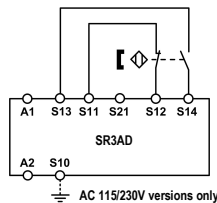
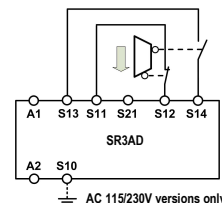
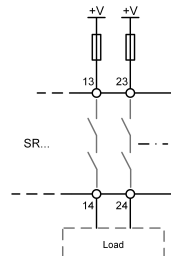

Fig. 4:
Fig. 5:
Fig. 11:
Depending on the application the device must be wired as shown in Fig. 4 to Fig. 11.
- The start circuit must be wired corresponding to the application according to Fig. 3 or Fig. 4.
Connect the safety inputs according to one of the wiring diagrams in "Applications" (Fig. 4 or Fig. 5).